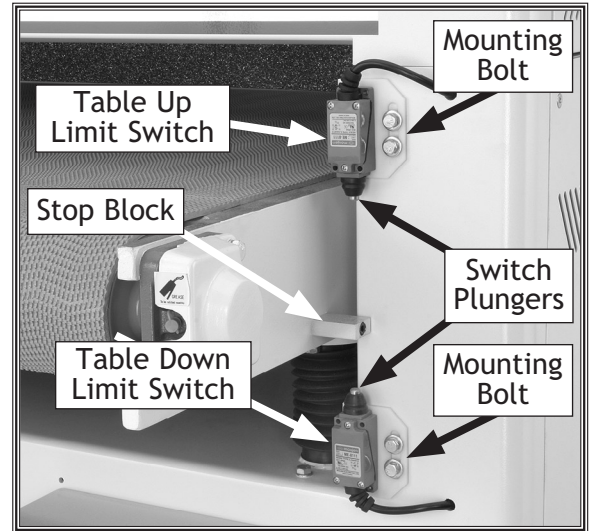

Figure 31. Table stop switch adjustment locations (right rear).
3. Loosen the mounting bolts for the table-down limit switch and slide the switch so the switch plunger depresses against the stop block and you hear the switch click (see **Figure 31**).
6. Loosen the mounting bolts for the table-up limit switch, and move the switch so the switch plunger depresses against the stop block and you hear the switch click (see **Figure 31**).